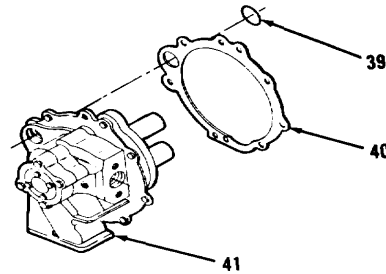

Figure 5-58.
14. Remove and discard preformed packing (39) and gasket (40) from oil pump (41, Figure 5-58). Remove all gasket material from mounting surfaces.